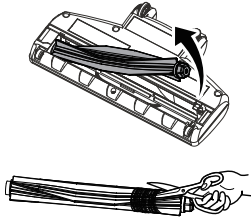

Fig.24
- Lift the brush roll out of the housing. Clean off debris and anything wrapped around the brush (Fig.24).